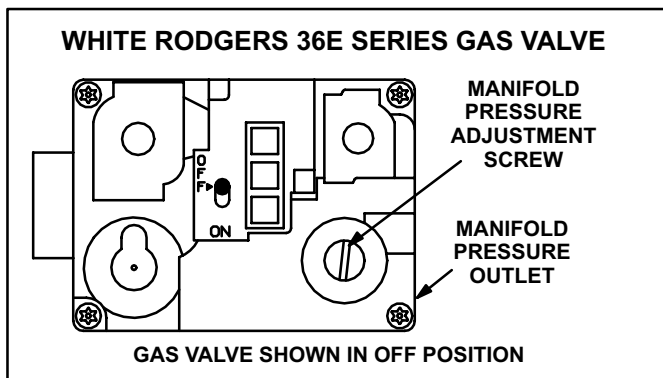

FIGURE 16
12. Gas Valve Figures 16, 15, 17 & 18
Gas Valve Operation (Figures 16, 15, 17 and 18)
- 1 - Connect a test gauge to outlet pressure tap on gas valve. See figures 16, 15 and 17. Start unit and allow 5 minutes for unit to reach steady state.